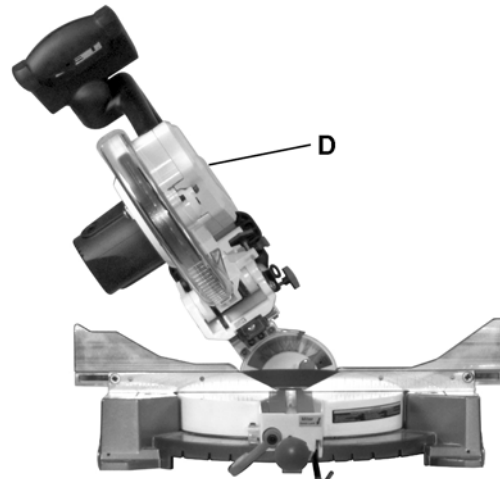

Figure 27
1. Push the *bevel detent stop pin* (E) in.
2. Loosen the *bevel lock handle* (A).
3. Rotate the *cutting head* (D, Fig. 27) until the *bevel detent pin* (E) stops the bevel angle at 33.9° on the *bevel scale* (F).
4. Tighten the *bevel lock handle* (A) before you make your cut.